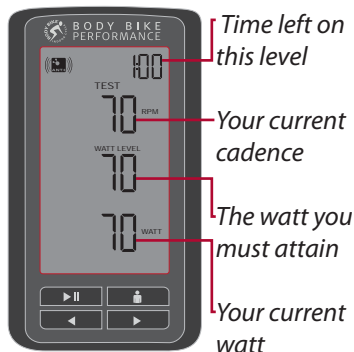

Figure 39
- 4: The top figure is your cadence. This should be as close to 70 as possible, see figure 39.
you need to attain and the bottom figure is how many watt you are currently performing, see figure 39. Adjust the tension until you attain the watt prescribed in the middle figure. The arrows at the bottom left of the screen will tell you if you need to add more tension or release tension.
tension to match again. You can follow the time in the top right corner of the display, see figure 39.